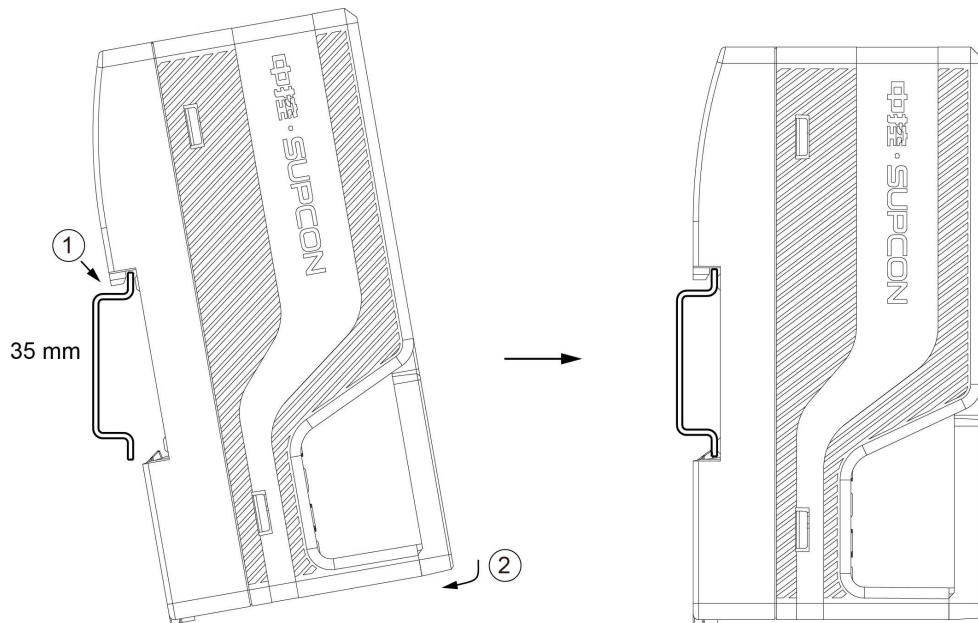

Figure 5-2 Mount the module
- 1) Attach the side without a buckle of the module to the rail, as ① shows in Figure 5-2.
- 2) Rotate the module and fix the side of active buckle into the rail as ② shows in Figure 5-2 to complete the installation.